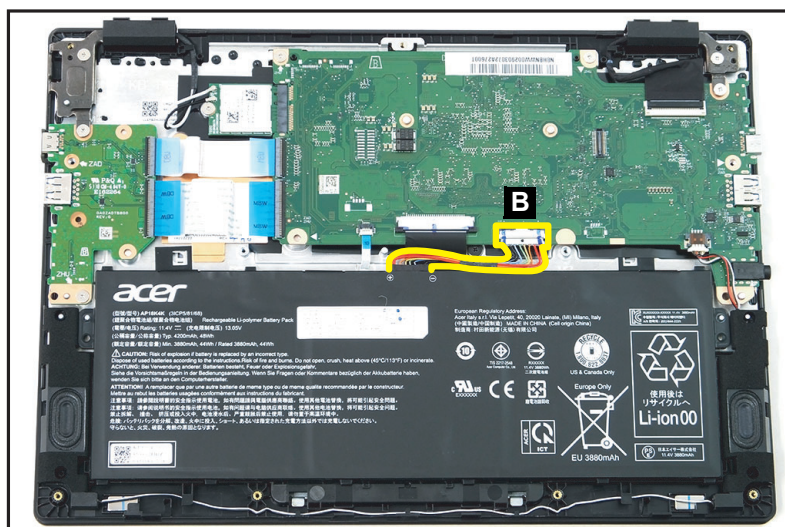

Figure 1-7. Battery Pack Removal
3. Disconnect the battery cable from the mainboard connector (B) (Figure 1-7).